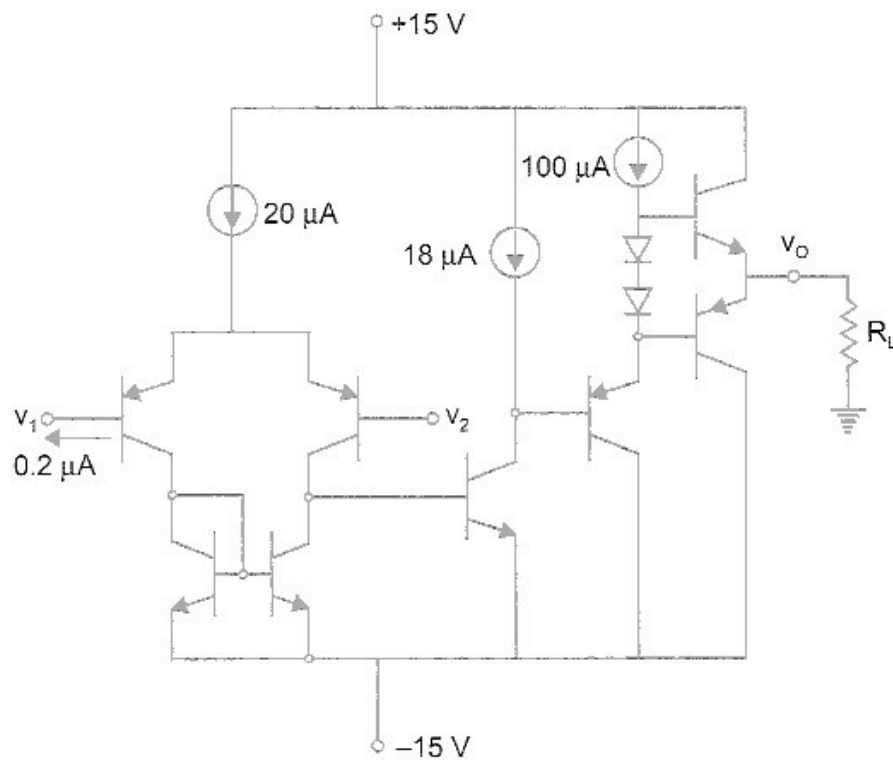

Fig. P. 2.20
2.20. For the simple op-amp shown in Fig. P. 2.20, all *npn* transistors have $\beta = 200$ and all *pnp* transistors have $\beta = 50$. Verify that $v_o = 0$ for $v_1 = v_2 = 0$. The current sources shown are realized by *pnp* current sources.